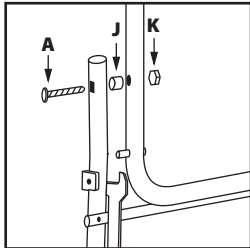

Fig. 4
- Attach component **4** to **3** using the fixings labelled **A**, **J** and **K**. Do not over tighten. Repeat on the other side. (**Fig. 4**). Note the position of the spacers **J** which are required to provide the necessary clearance for the frame to operate.